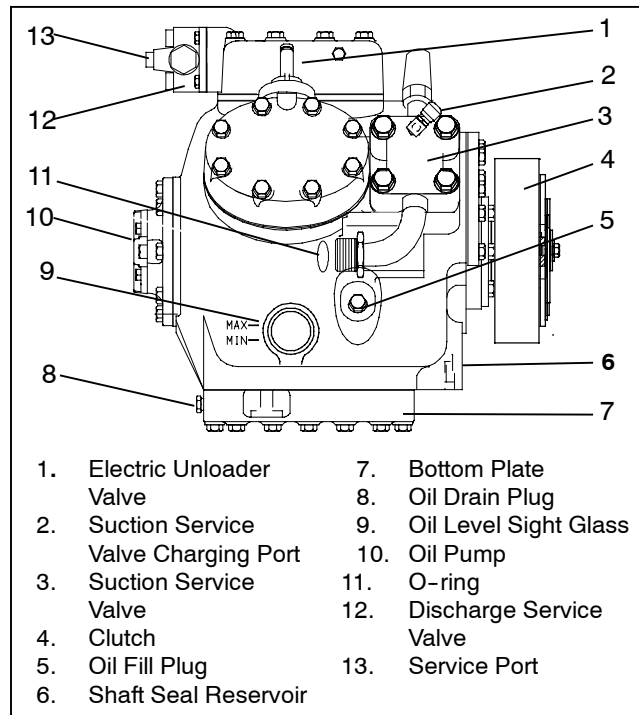

Figure 4-12. Compressors
- c. Shut off the system and immediately record the oil level in the compressor sight glass. See Figure 4-12. If the compressor is not level, an average between the sight glass levels will have to be made to determine level.
- d. The correct oil level for this application should be between the bottom and 1/2 of the oil level sight-glass. See Figure 4-12. If the oil level is correct, release the coach into service. If the level is above the 1/2 sightglass maximum, proceed to step e. If the level is below the 1/2 sightglass maximum proceed to step f.
2. Add oil to compressor crankcase slowly, through the oil fill plug opening (see Figure 4-12) to bring level to mid range of allowed levels.